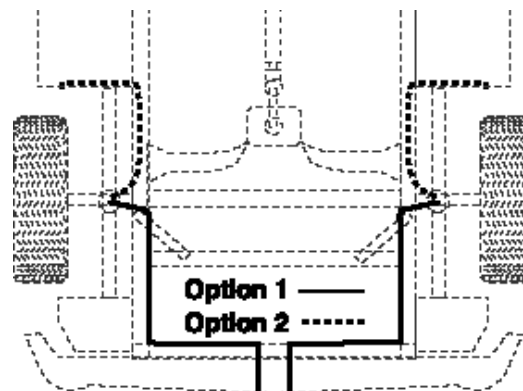

fig. 12
6. Route the air line along the frame to the air fitting on the air spring (Figure 12). Keep at least 6" of clearance between the air line and heat sources, such as the exhaust pipes, muffler, or catalytic converter. Avoid sharp bends and edges. Use the plastic tie straps (BB) to secure the air line to fixed, non-moving points along the chassis. Be sure that the tie straps are tight, but do not pinch the air line. Leave at least 2" of slack to allow for any movement that might pull on the air line.